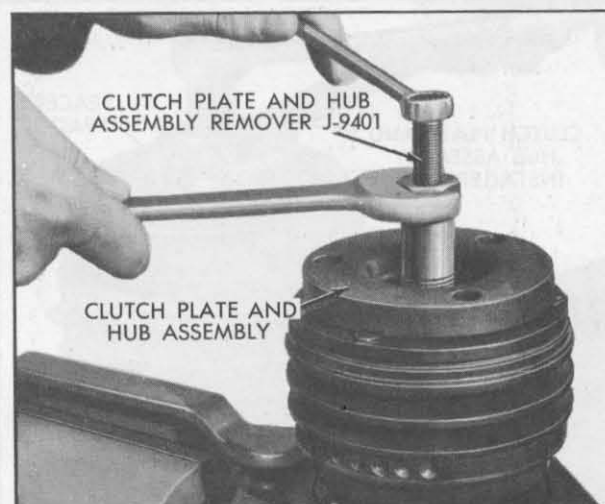

Fig. 1-57 Removing Clutch Plate and Hub Assembly
3. Thread Clutch Plate and Hub Assembly remover, J-9401, into hub. Hold body of tool with a wrench and tighten center screw to remove clutch plate and hub assembly, Fig. 1-57.